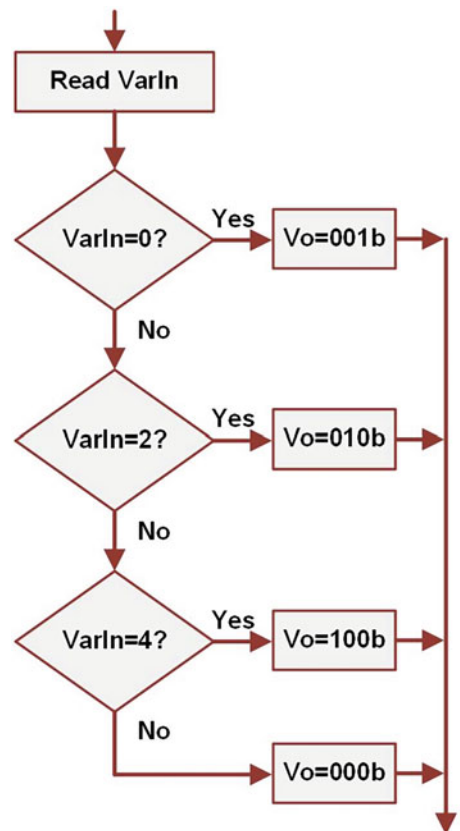

Fig. 8.9
- 8.4.4 Which high-level programming construct does the flow chart in Fig. 8.9 represent?